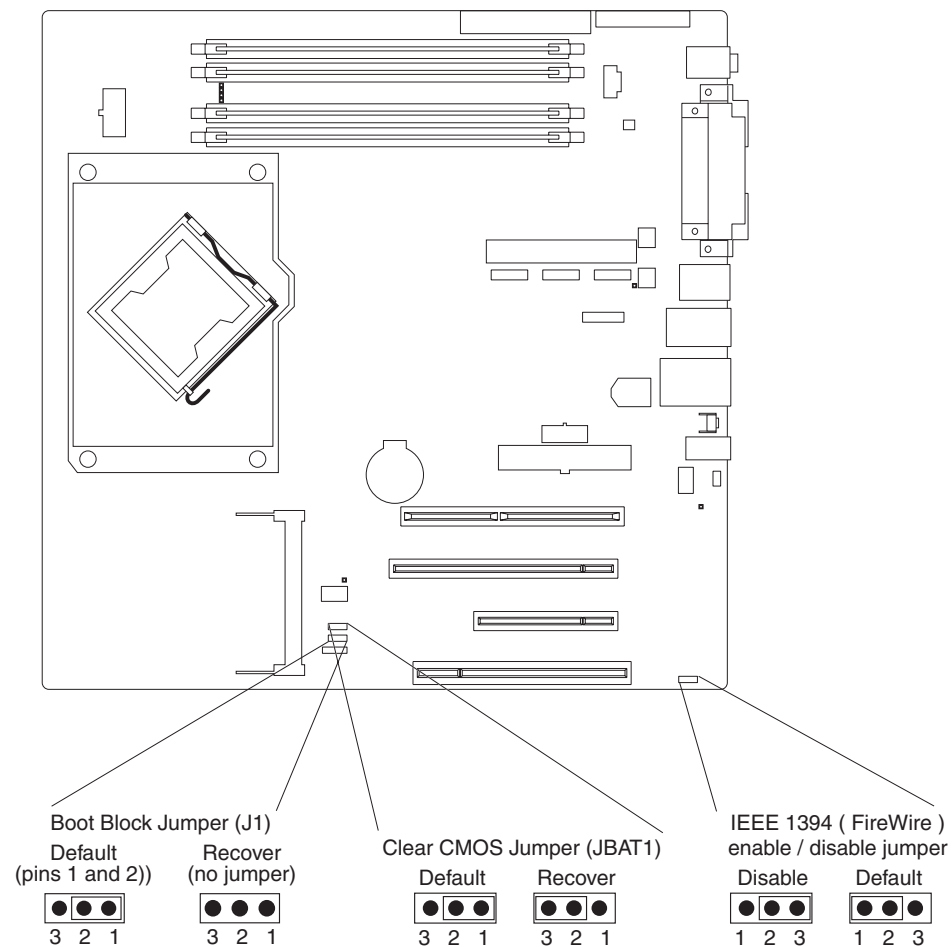

Figure 54. Recovery jumper locations
5. Locate the boot block recovery jumper (J1) on the system board (see Figure 54), removing any adapters that impede access to the jumper.
5. Locate the CMOS recovery jumper (JBAT1) on the system board (see Figure 54 on page 123), and remove any adapters that impede access to the jumper.